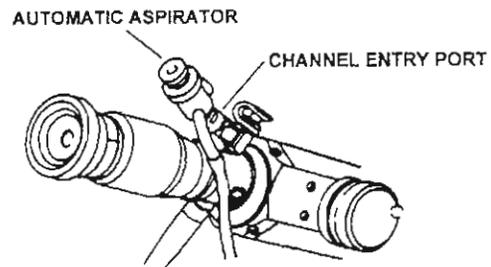

Figure 2-4. Automatic aspirator.
b. Automatic aspirator (fig 2-4). The automatic aspirator attaches to the channel entry port connector. It supports the use of biopsy forceps, cytology brushes, and other diagnostic and therapeutic agents for bronchoscopic procedures. Suction for bronchoscopic procedures is also attained through the automatic aspirator and the channel entry port.